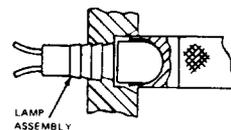
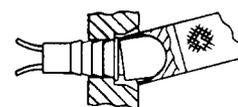

Fig. 2—Countersunk End of Tool Over Cap
Fig. 3—Snapping Cap Off by Moving Tool to One Side
**3.01** To remove a lamp cap, place the countersunk end of the extractor tool over the lamp cap, as shown in Fig. 2. Snap the cap off by moving the tool to one side, as shown in Fig. 3. Remove the cap from the tool.